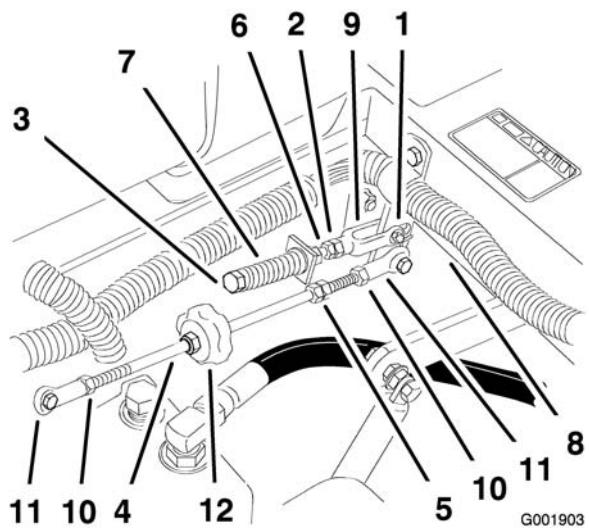

Figure 69
- If adjustment is needed, loosen the nut and jam nut against the yoke (Figure 69).
- Apply slight rearward pressure on the motion control lever, turn the head of the adjustment bolt in the appropriate direction until the control lever is centered in the neutral lock position (Figure 69).
- Tighten the nut and jam nut (Figure 69).